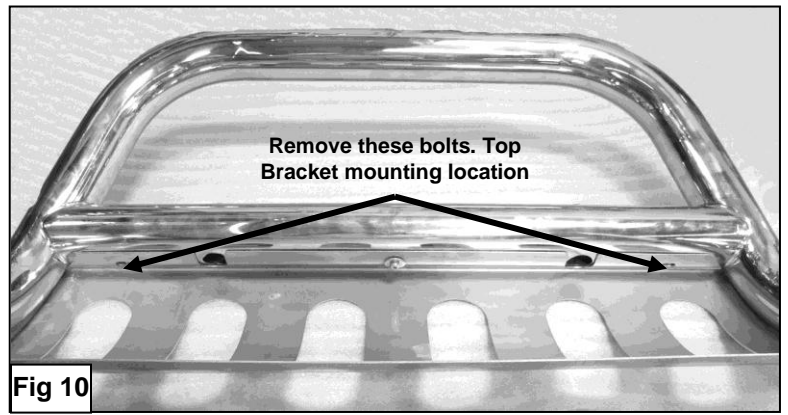

Fig 10
14. Remove the two outer skid plate upper bolts on the Bull Bar (**Figure 10**). **NOTE:** This will be the Top Bracket mounting location.